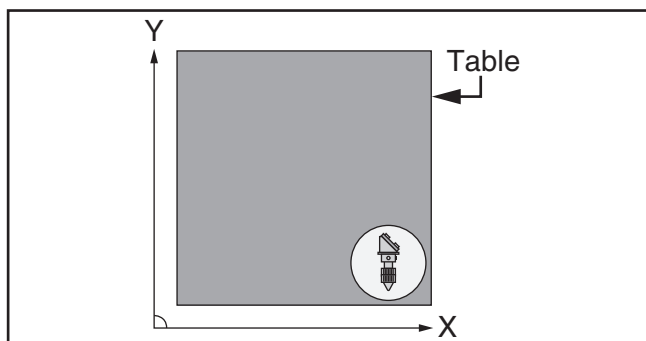

Figure 113. Laser head assembly in lower right corner of table.
24. Move laser head assembly to lower right corner of table (see **Figure 113**).